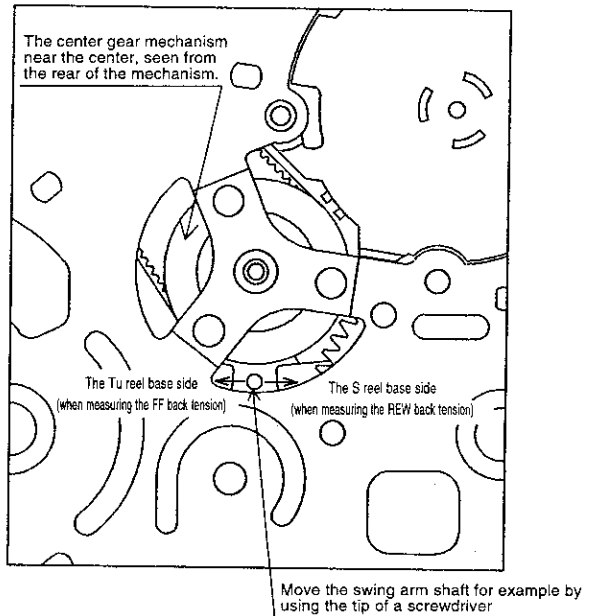

Fig. 7. The swing arm shaft position (seen from the rear of the mechanism) when measuring the FF • REW back tension.
- (1) Remove the cassette control assembly, then apply DC3V to the loading motor and put the system into FF mode (refer to 8-1).
- (2) Turn the mechanism over, then move the swing arm to the Tu reel base side, for example by using the tip of a screwdriver (refer to Fig. 7).
- (3) Set a back tension measurement reel hub on the S reel base.
- (4) Using a dial tension gauge, pull the string in the A direction, then confirm that the tension is within the standard.
- (1) Remove the cassette control assembly, then apply DC3V to the loading motor and put the system into REW mode (refer to 8-1).
- (2) Referring to 8-3 (3) thru (5), insert thick paper, then release the DOWN switch and the Tu lock release lever.
- (3) Turn the mechanism over, then move the swing arm toward the S reel base side, using for example the tip of a screwdriver (see Fig. 7).
- (4) Set a back tension measurement reel hub on the Tu reel base.
- (5) Using a dial tension gauge, pull the string in the A direction, then confirm that the tension is within the standard.
- (6) Remove the paper that was inserted in (2).
- (1) Remove the cassette control assembly, then apply DC3V to the loading motor and put the system into standby mode (refer to 8-1).
- (2) Referring to 8-3 (3) thru (5), insert thick paper, and release the DOWN switch and the Tu lock release lever.
- (3) Turn the mechanism over, then move the swing arm to the S reel base side, for example with the tip of a screwdriver (see Fig. 7).
- (5) With the dial tension gauge, pull the string in the A direction and confirm that the tension is within the standard. (If the tension fluctuates, read the center value.)